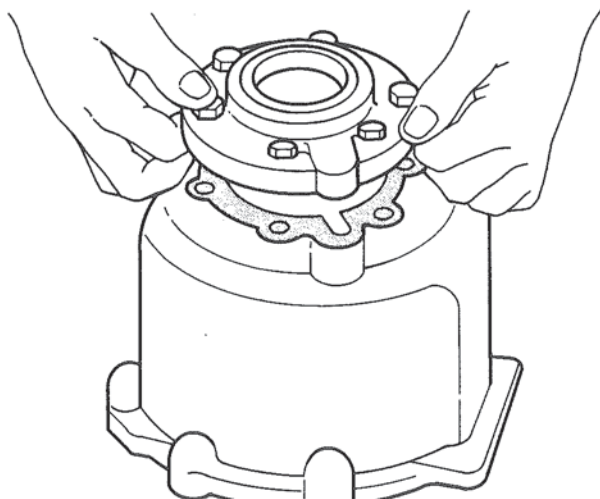

Figure 27. Installing Bearing Retainer and Gasket.
1. Place the bearing retainer gasket on the reduction housing, aligning the slot in the gasket with the oil hole in the housing. Figure 27.
3. Install the six (6) 7/16 - 14 x 1-1/4 hex head bolts and six (6) 7/16 lockwashers and tighten to specified torque.